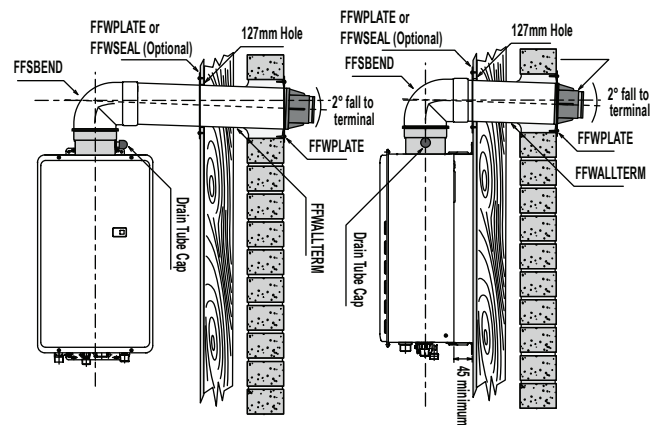

Fig. 6
7. To prevent rain water from entering the flue terminal ensure the required 2° fall to outside is achieved (Fig.6).